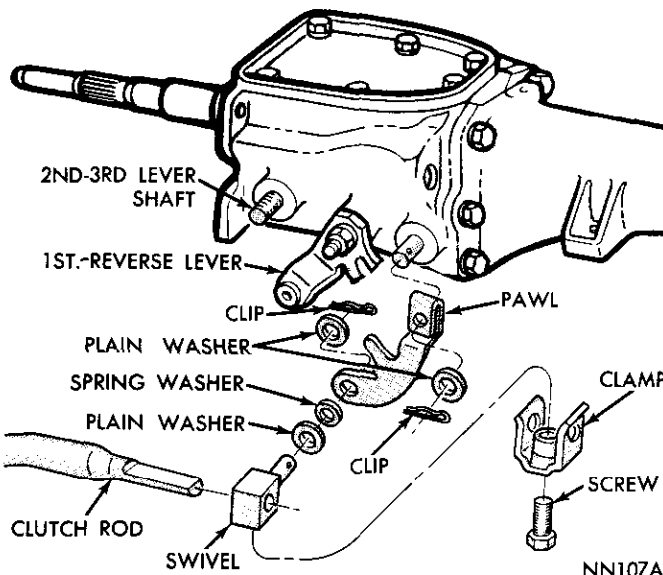

Fig. 4—Gearshift Interlock (6 cyl. & A903 Trans. Only)
(2) On 6 cylinder models with A-903 transmission disconnect gearshift interlock rod by loosening rod swivel clamp screw (Fig. 4).
Gearshift Interlock (Fig. 4) (6 Cylinder only)